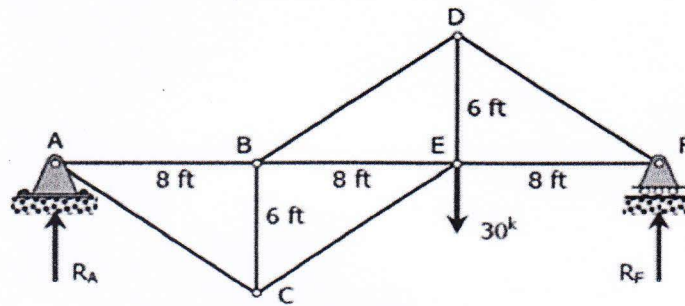

Figure 1
1. The cross sectional area of the each member is  $1.8 \text{ in}^2$  for the given truss shown in the figure 1. Determine the stresses in member CE, DE and DF.